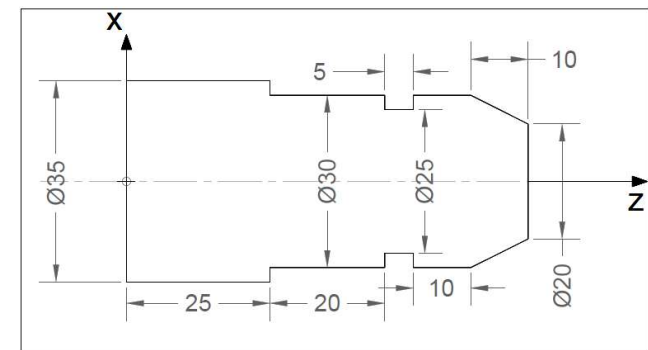

Figure 3
- (b) Write a part program to manufacture the product as shown in figure 3 below with spindle speed 1500 RPM and feed rate 1mm/rev. Here the job dia is 35mm. Consider all the dimensions in mm.